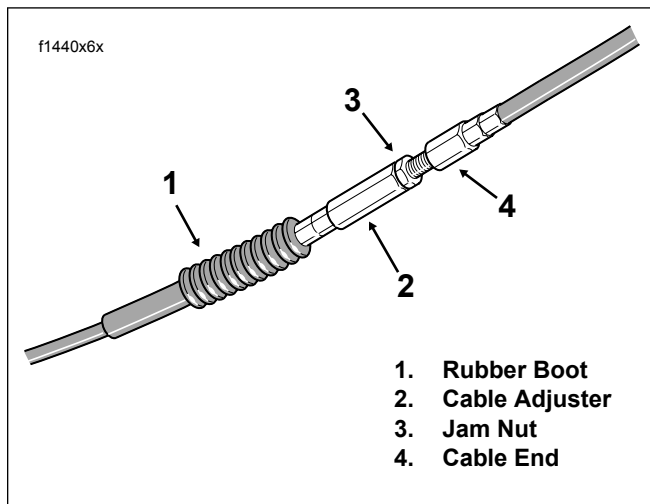

Figure 1-8. Clutch Cable Adjuster Mechanism
3. See Figure 1-8. Slide rubber boot off cable adjuster. Holding cable adjuster with 1/2 inch wrench, loosen jam nut using a 9/16 inch wrench. Back jam nut away from cable adjuster. Move adjuster toward jam nut to introduce a large amount of free play at hand lever.